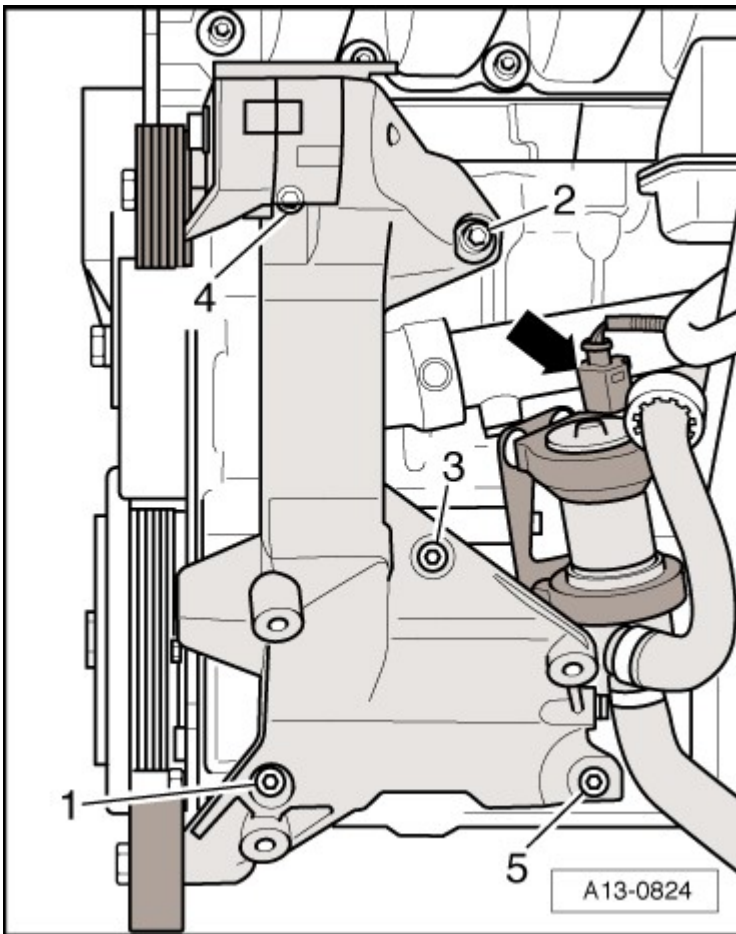

Fig. 2: Accessory Assembly Bracket Bolts & After-Run Coolant Pump V51 Electrical Harness Connector
- Tightening specifications and tightening sequence, refer to **Fig. 2**